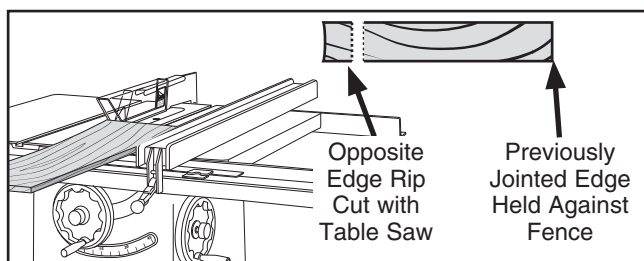

Figure 23. Rip cutting on a table saw.
2. Place the jointed edge of the 2x4 against the table saw fence and rip cut just enough off the opposite side to square up the two edges of the 2x4, as shown in **Figure 23**.